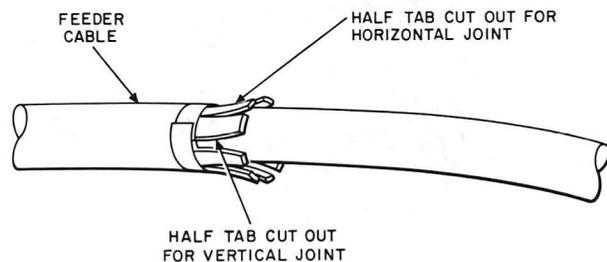

Fig. 15—Tab Cutout for Ears of Inner Sheath Clamp
7.04 Cut equally-spaced tabs in the poly-jacket and the metal shields. See Table A. One half of the tab on the front side of the splice should be cut away to make room for the inner sheath clamp (Fig. 15).